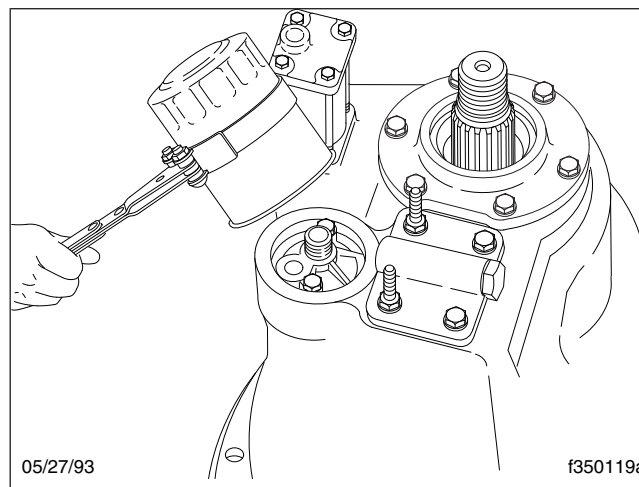

Fig. 3, Meritor Axle Oil Filter Removal
- If equipped with an oil pump, remove the axle oil filter. Use a suitable filter strap wrench; see Fig. 3. Discard the old filter.